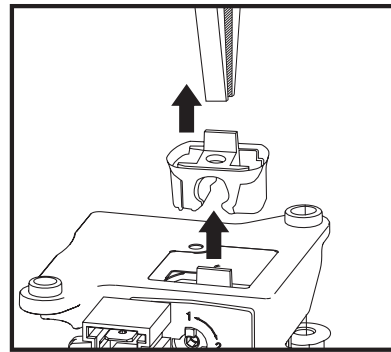

fig. 184 - Gas diaphragm replacement
- Unscrew the fillers ("4" di fig. 184.) and remove the circulator ("5" di fig. 184.)